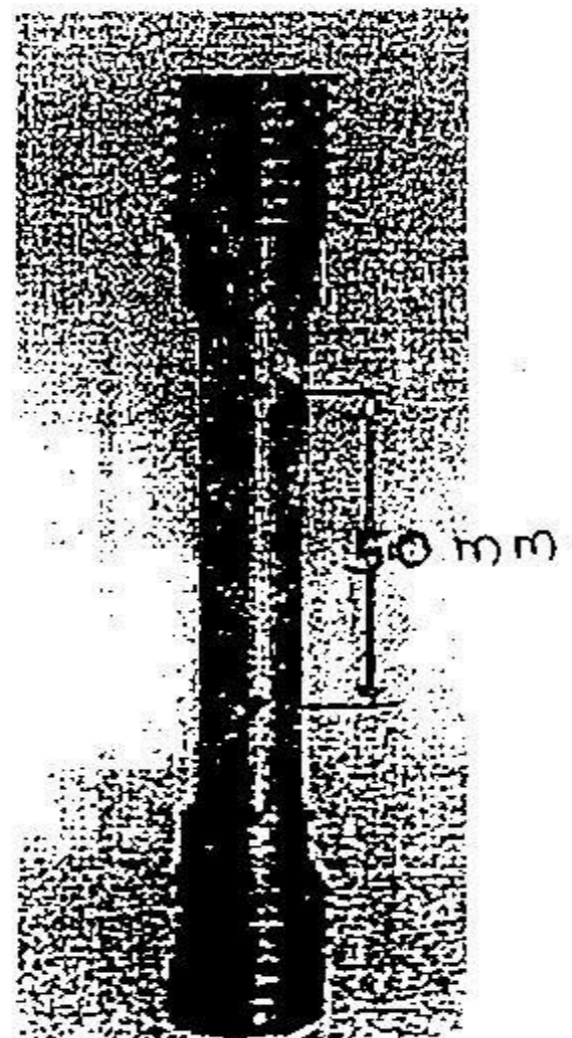

FIG. 6
c) Three different materials designated A, B & C are tested in tension using test specimens having diameters of 12.625 mm & gauge length of 50 mm (fig. 6). At failure, the distances between the gauge marks are found to be 53.25 mm, 62 mm & 69.5 mm respectively. Also, at the failure cross-sections, the diameters are found to be 12.1 mm, 9.95 mm & 6.325 mm respectively. Determine the percent elongation & percent reduction of area of each specimen & then using your judgment, classify each material as brittle or ductile. (07 M)